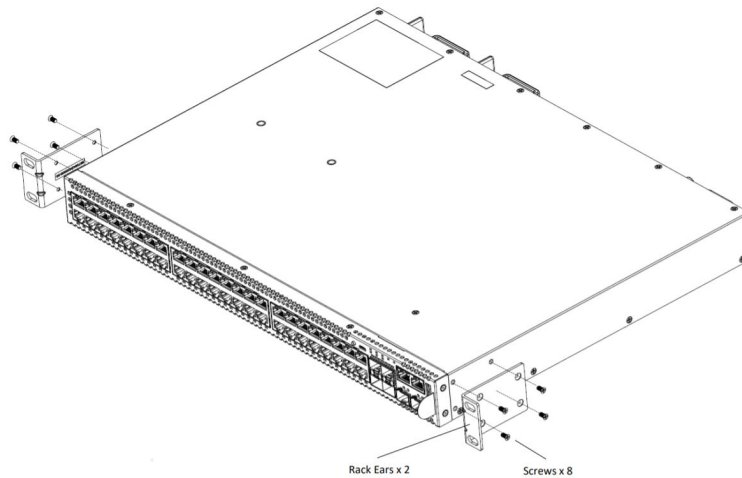

Figure 45: Flush-Mount: Attaching Short Mounting Brackets
- Figure 45 shows a flush-mount configuration using a short mounting bracket.